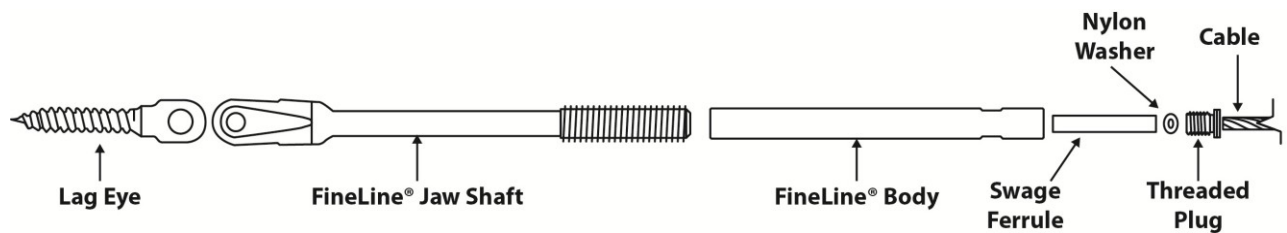

Fig 7
NOTE: Individual components may need assembly (Fig. 7).
- Perform step 6.2. Screw FineLine® Body onto FineLine® Jaw Shaft 3-4 times (Fig. 7).